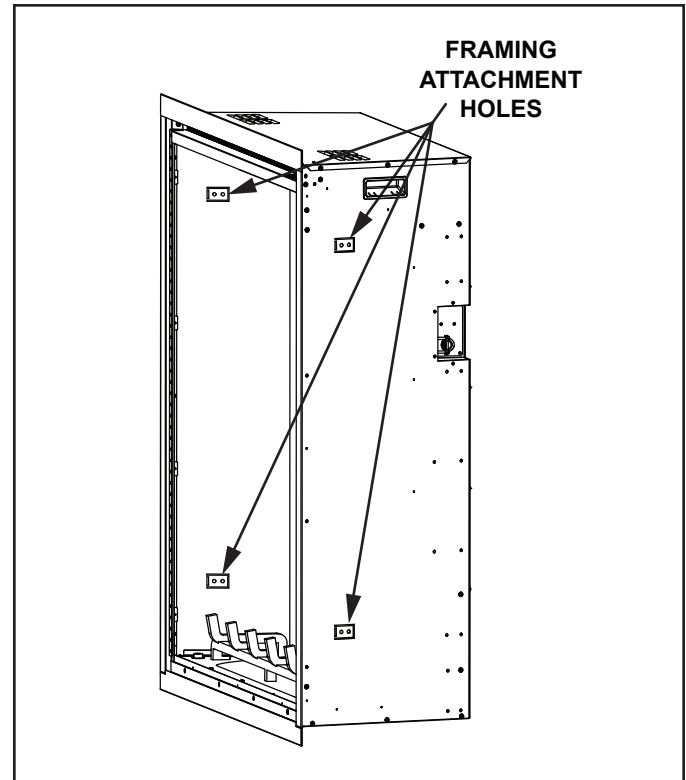

Figure 7.2 Framing Attachment Hole Locations
7. Attach the appliance to the framing with four (4) ST4X40 wood screws at the tabbed, framing attachment hole locations. See Figure 7.2.